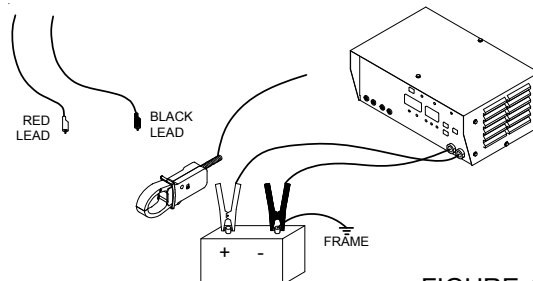

FIGURE 10
- 2) Connect the unit to the battery. (see figure 10)